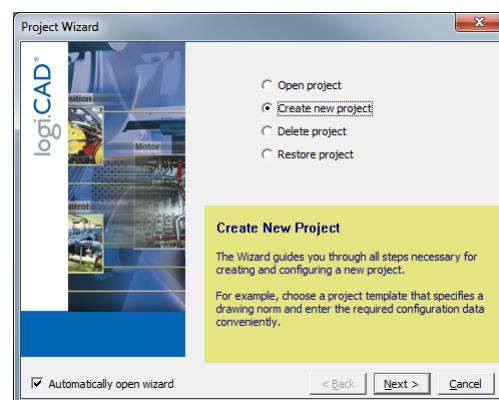

Figure 30: logiCAD project wizard
2. The project wizard starts automatically as shown in Figure 30.